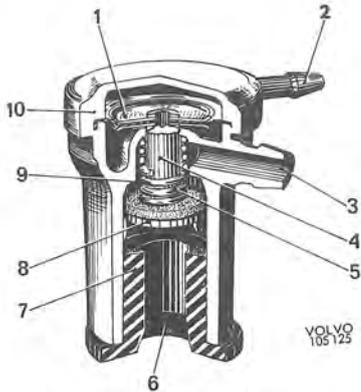

Fig. 2-63. Air valve
The air valve (Fig. 2-63) controls the connection between the venting filter and the carburettor venturi. The space above the diaphragm (1) is connected by a line to the carburettor venturi on the side of the